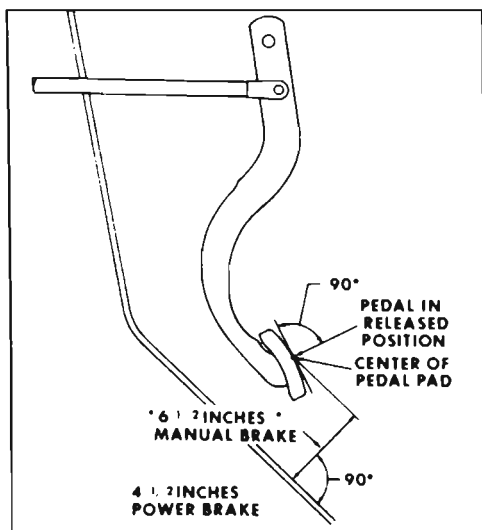

Figure 9-10—Brake Pedal Height
3. When specified pedal height is attained as shown in Figure 9-10, tighten jam nut.
9. Install J-21231 through adjusting hole to move actuator off adjusting screw. See Figure 9-10.